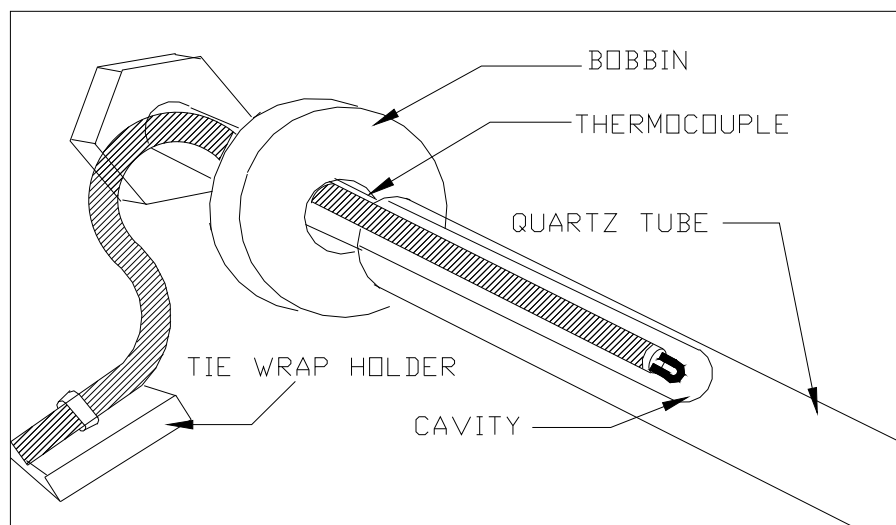

Figure 3-6. Thermocouple Installed
13. The thermocouple should now be properly seated in the cavity of the quartz tube. Refer to Figure 3-6